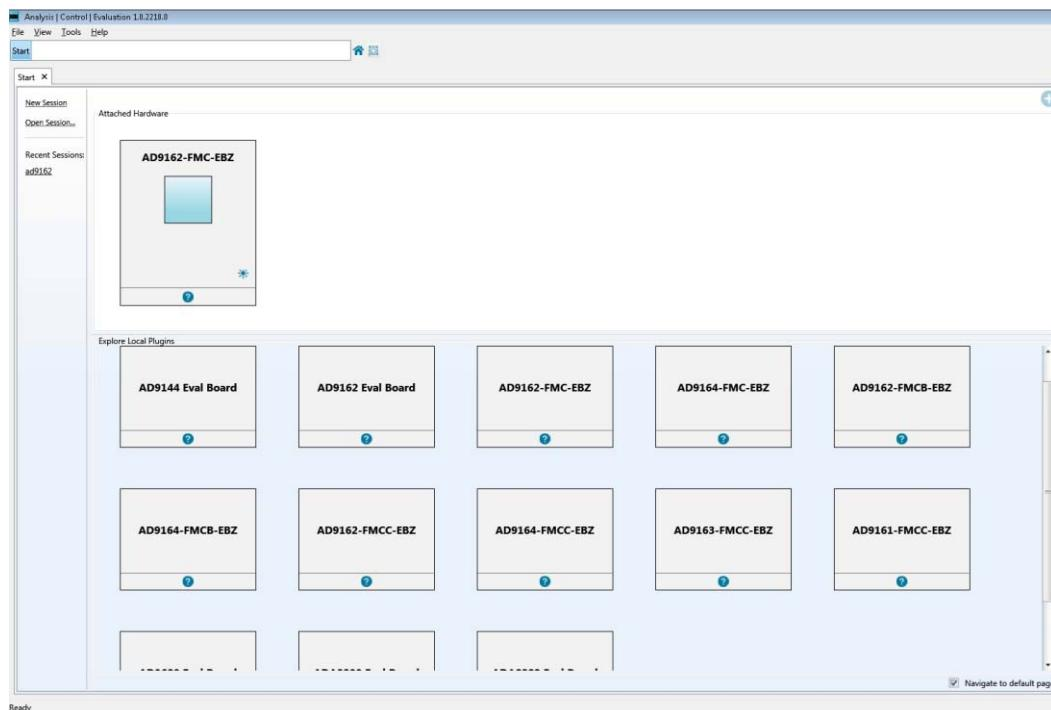

Figure 5. The entry screen of the ACE SPI programmer software
1. Open the ACE software, which is located in Start->Programs->Analog Devices->ACE->ACE. The screen will appear similar to Figure 5 below. ACE is the software that is used to load the registers in the AD9162. The ACE software enables full access to the AD9162 register map, and also has several views and features that simplify its use. Many of the ACE software features will be covered in the ACE Software User’s Guide section. This section will focus on what is necessary to start-up the AD9162 in DC TEST/NCO mode.